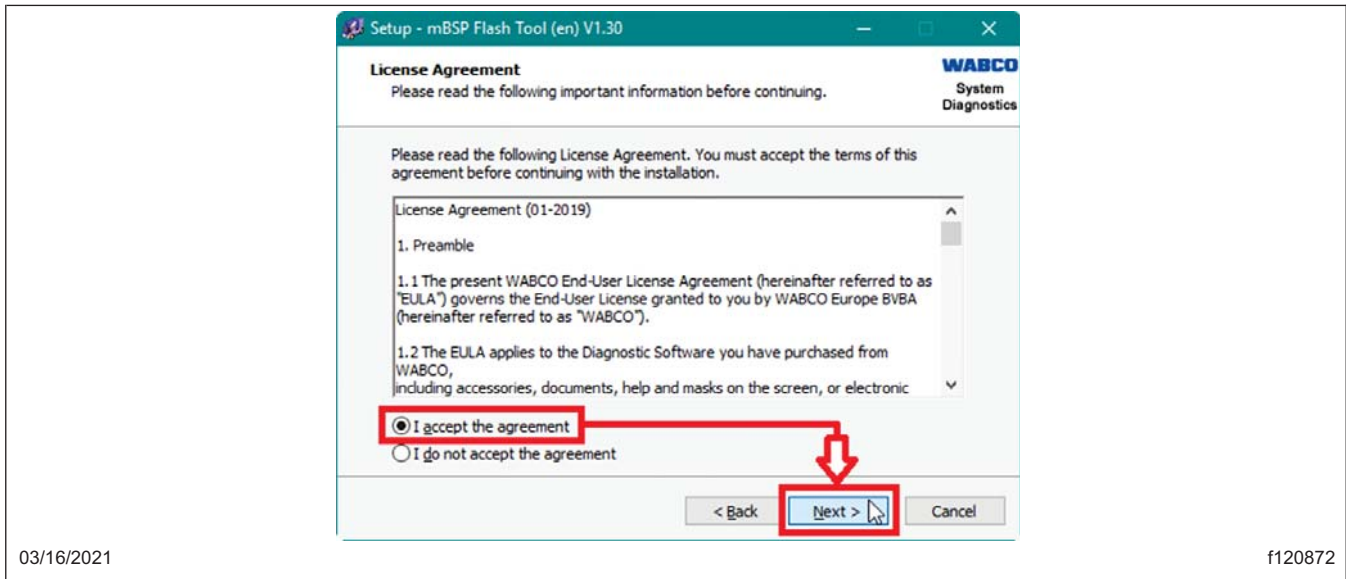

Fig. 12, License Agreement
- 7.6 At the 'License Agreement' pop-up window, choose 'I accept the agreement' and then select 'Next.' See Fig. 12.